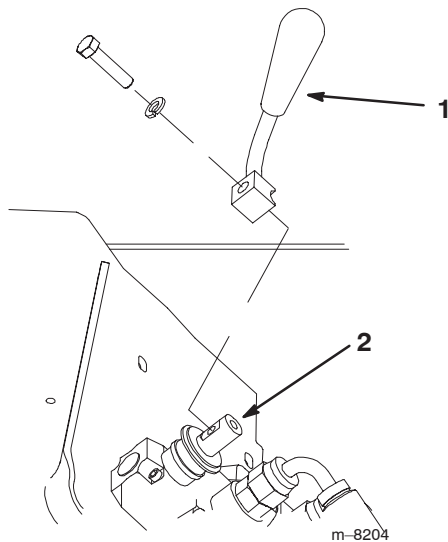

Figure 2
2. Secure the lever to the speed selector valve using the bolt and washer as illustrated in Figure 2.